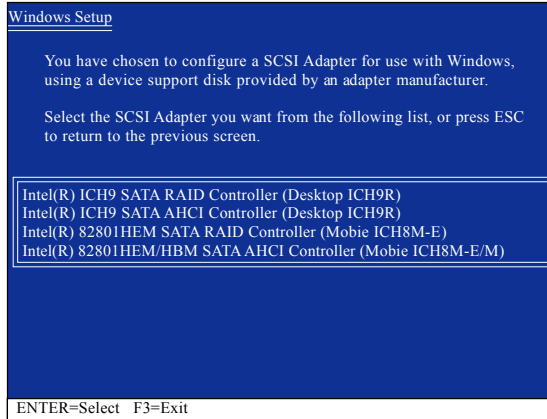

Figure 3
When Setup correctly recognizes the Intel ICH9R SATA RAID/AHCI driver in the floppy disk, a controller menu similar to Figure 3 below will appear. Use the arrow keys to select one of the items displayed and press <Enter>. If you set the **SATA RAID/AHCI Mode** item in BIOS Setup to RAID mode, select Intel (R) ICH9 SATA RAID Controller (Desktop ICH9R). (Select Intel(R) ICH9 SATA AHCI Controller (Desktop ICH9R for AHCI mode.)